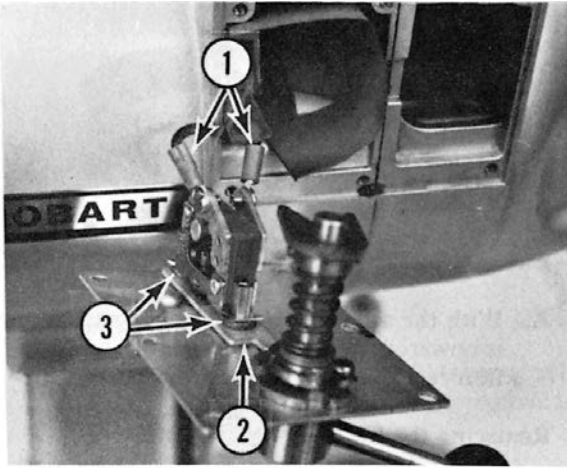

Fig. 6-3
- B. Disconnect the two leads (1, Fig. 6-3) from the switch.
- D. When installing the new switch, place the interlock plunger (2, Fig. 6-3) disc guides (3, Fig. 6-3) and switch on the control box plate. Secure with the two switch mounting screws.